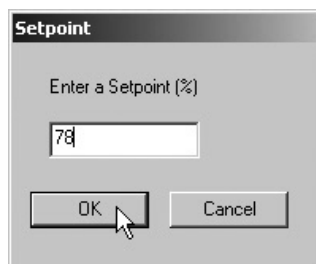

Figure 50 Changing Position Indicator
1. Right-click inside the position indicator area and Figure 50 appears.